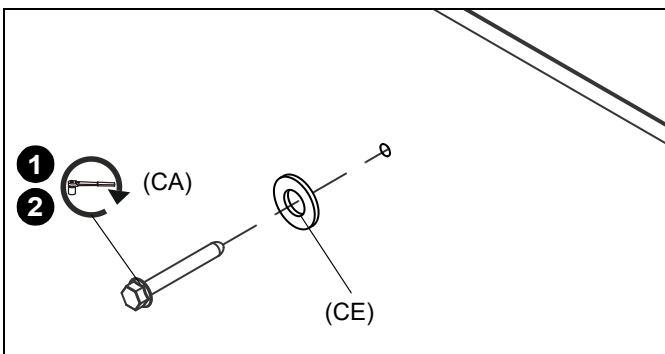

Figure 31
1. Use one 5/16" x 2-1/2" hex flange head lag bolt (CA) and 5/16" washer (CE) through product and into pilot hole. (See Figure 31)